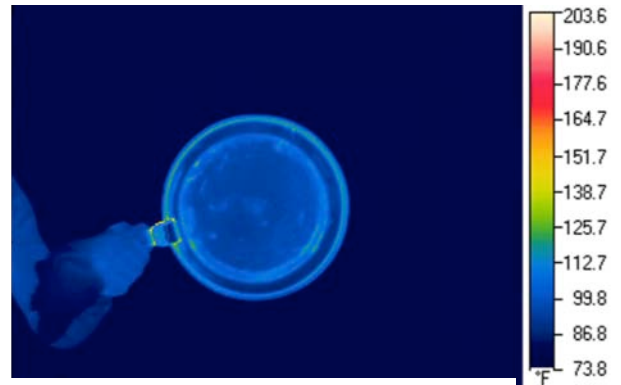

Figure 4
**Pop Quiz Answer:** The Teflon side is Fig 3. Fig 4 is the stainless steel side which appears cooler than Fig 3 because it is reflecting the cooler background temperatures.